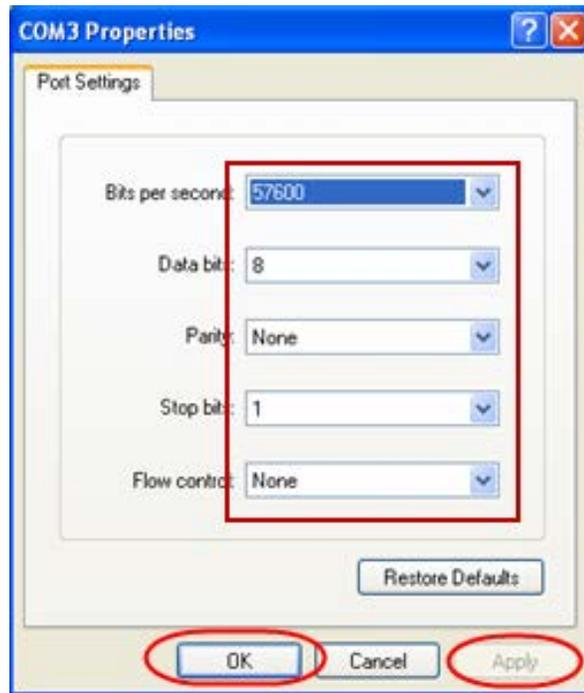

Fig.15
8. In the COM Properties screen, enter the information bellow, click **APPLY** then **OK** (Fig.15).